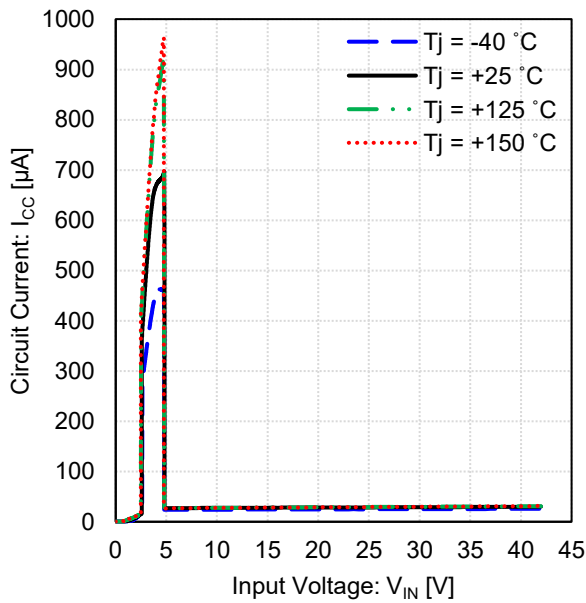

Figure 1. Circuit Current vs Input Voltage
*magnification of Figure 1 at narrow range circuit current